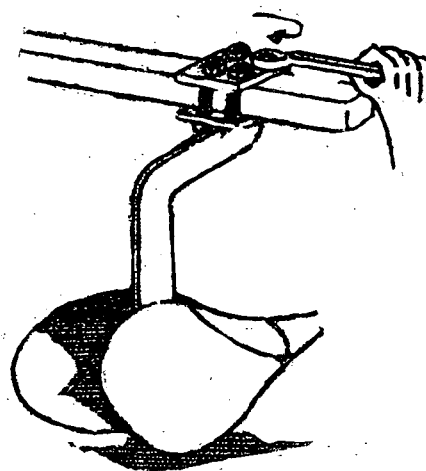

Fig. 1
- a) Loosen the bolts which hold the lister to the tool bar (Fig. 1).